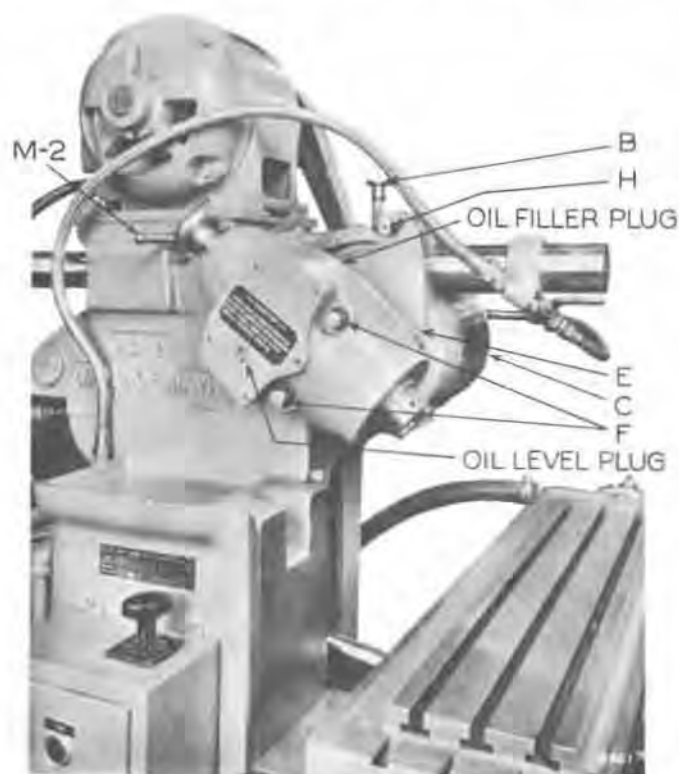

FIG. 6—Cutterhead
**CUTTERHEAD ADJUSTMENT** (See Fig. 6): The cutterhead is adjustable to any angle between